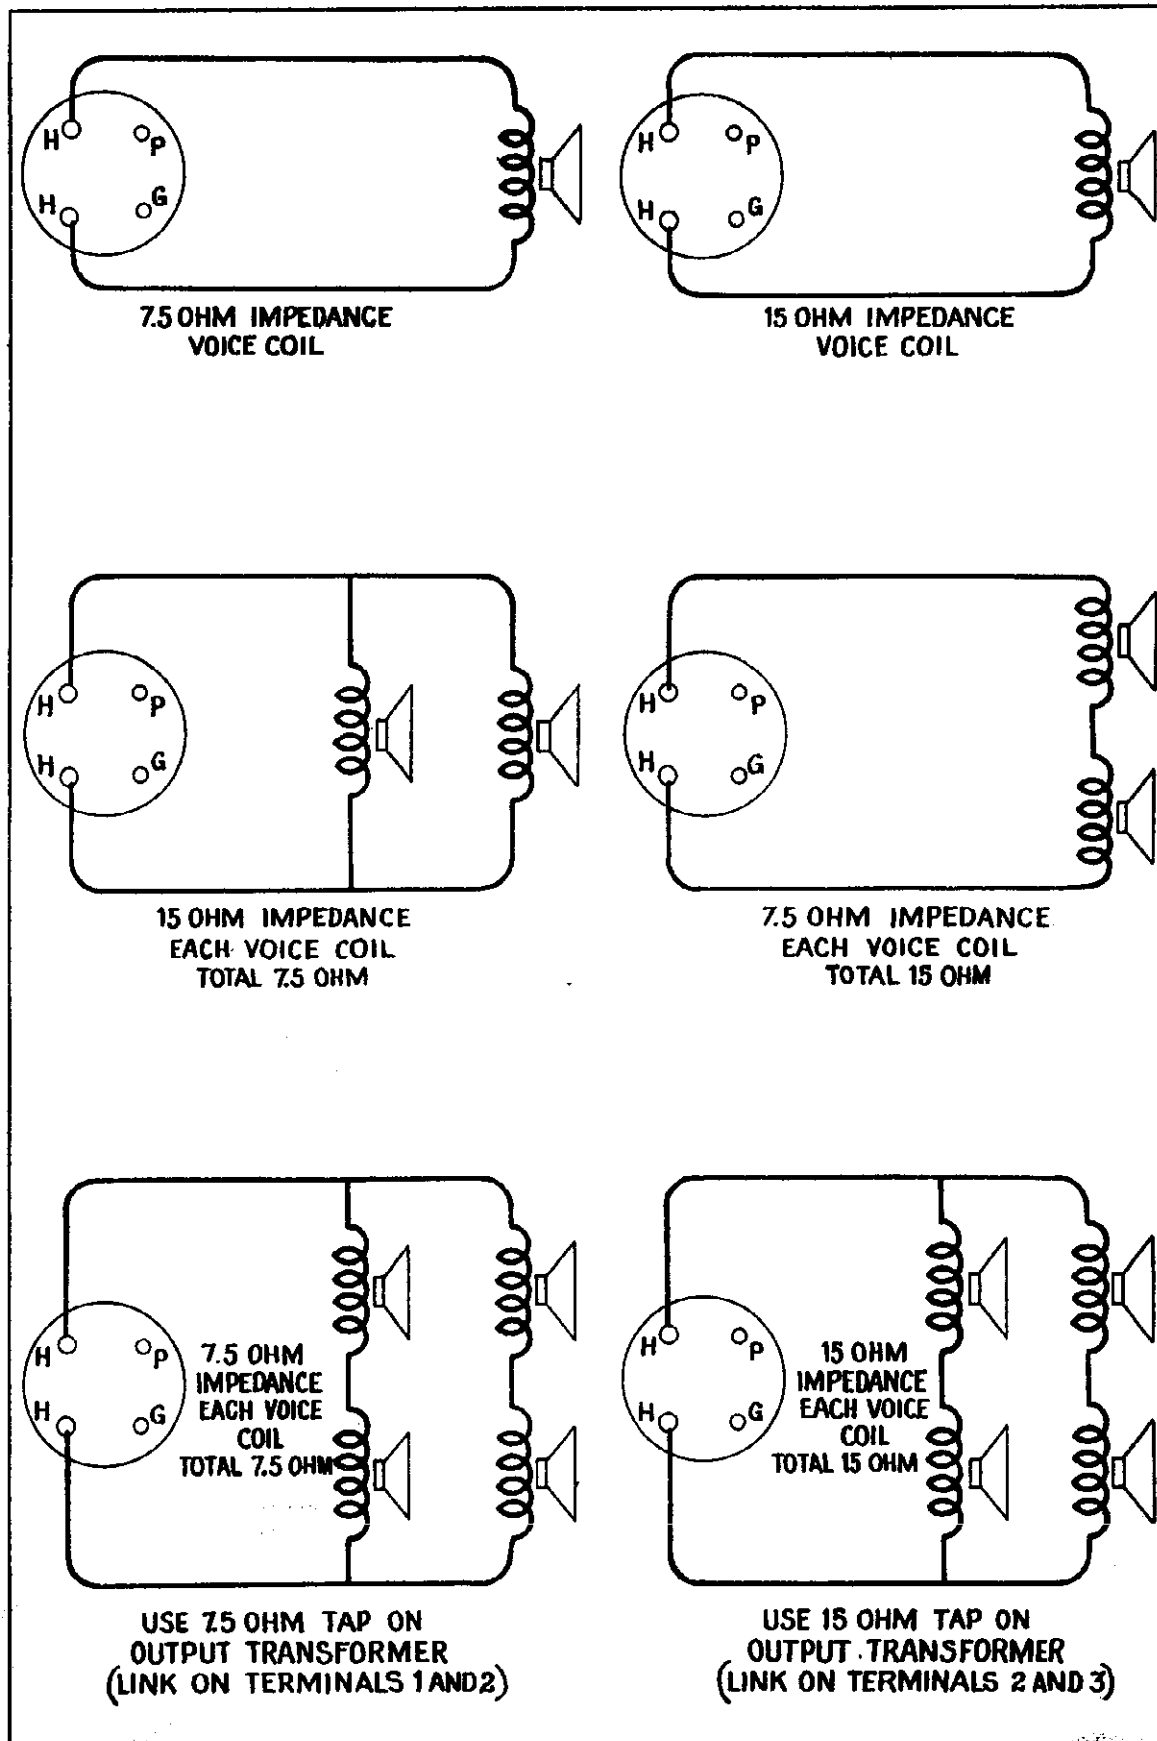
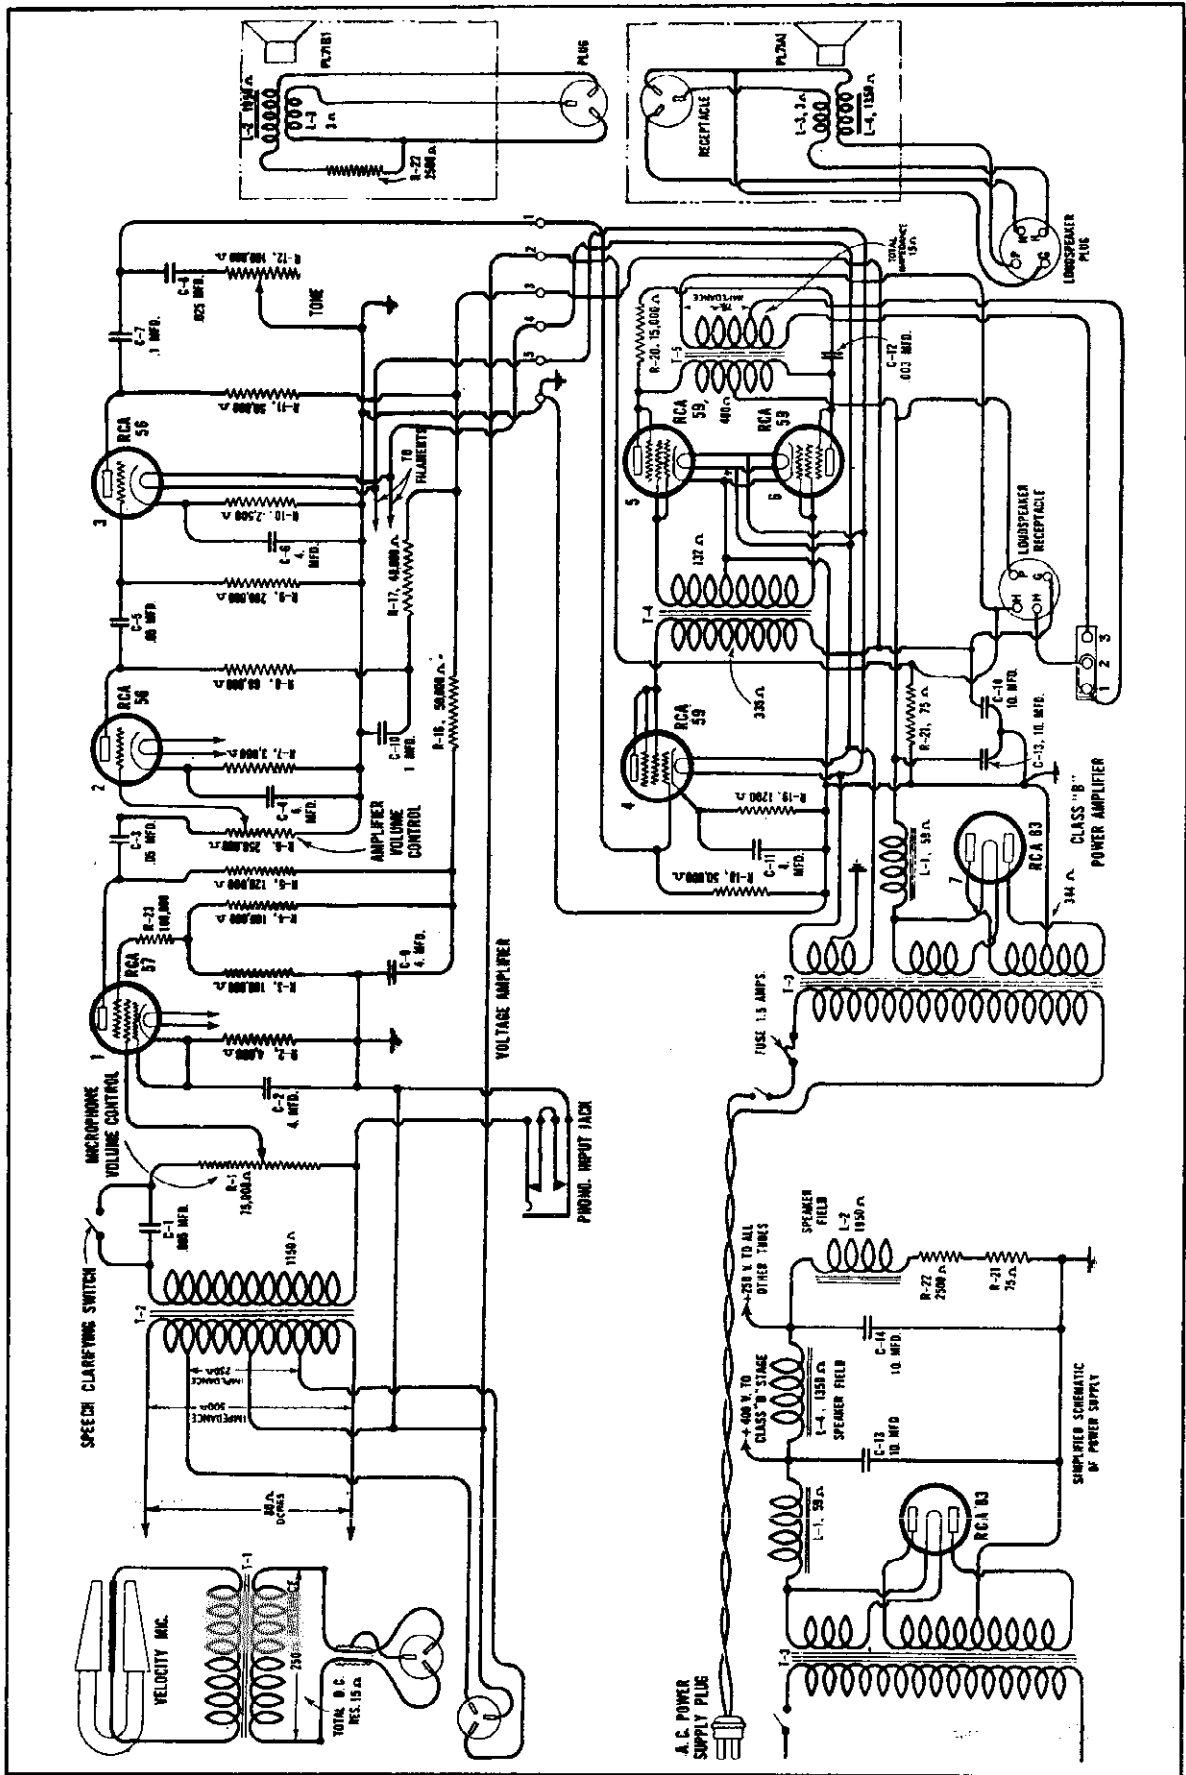
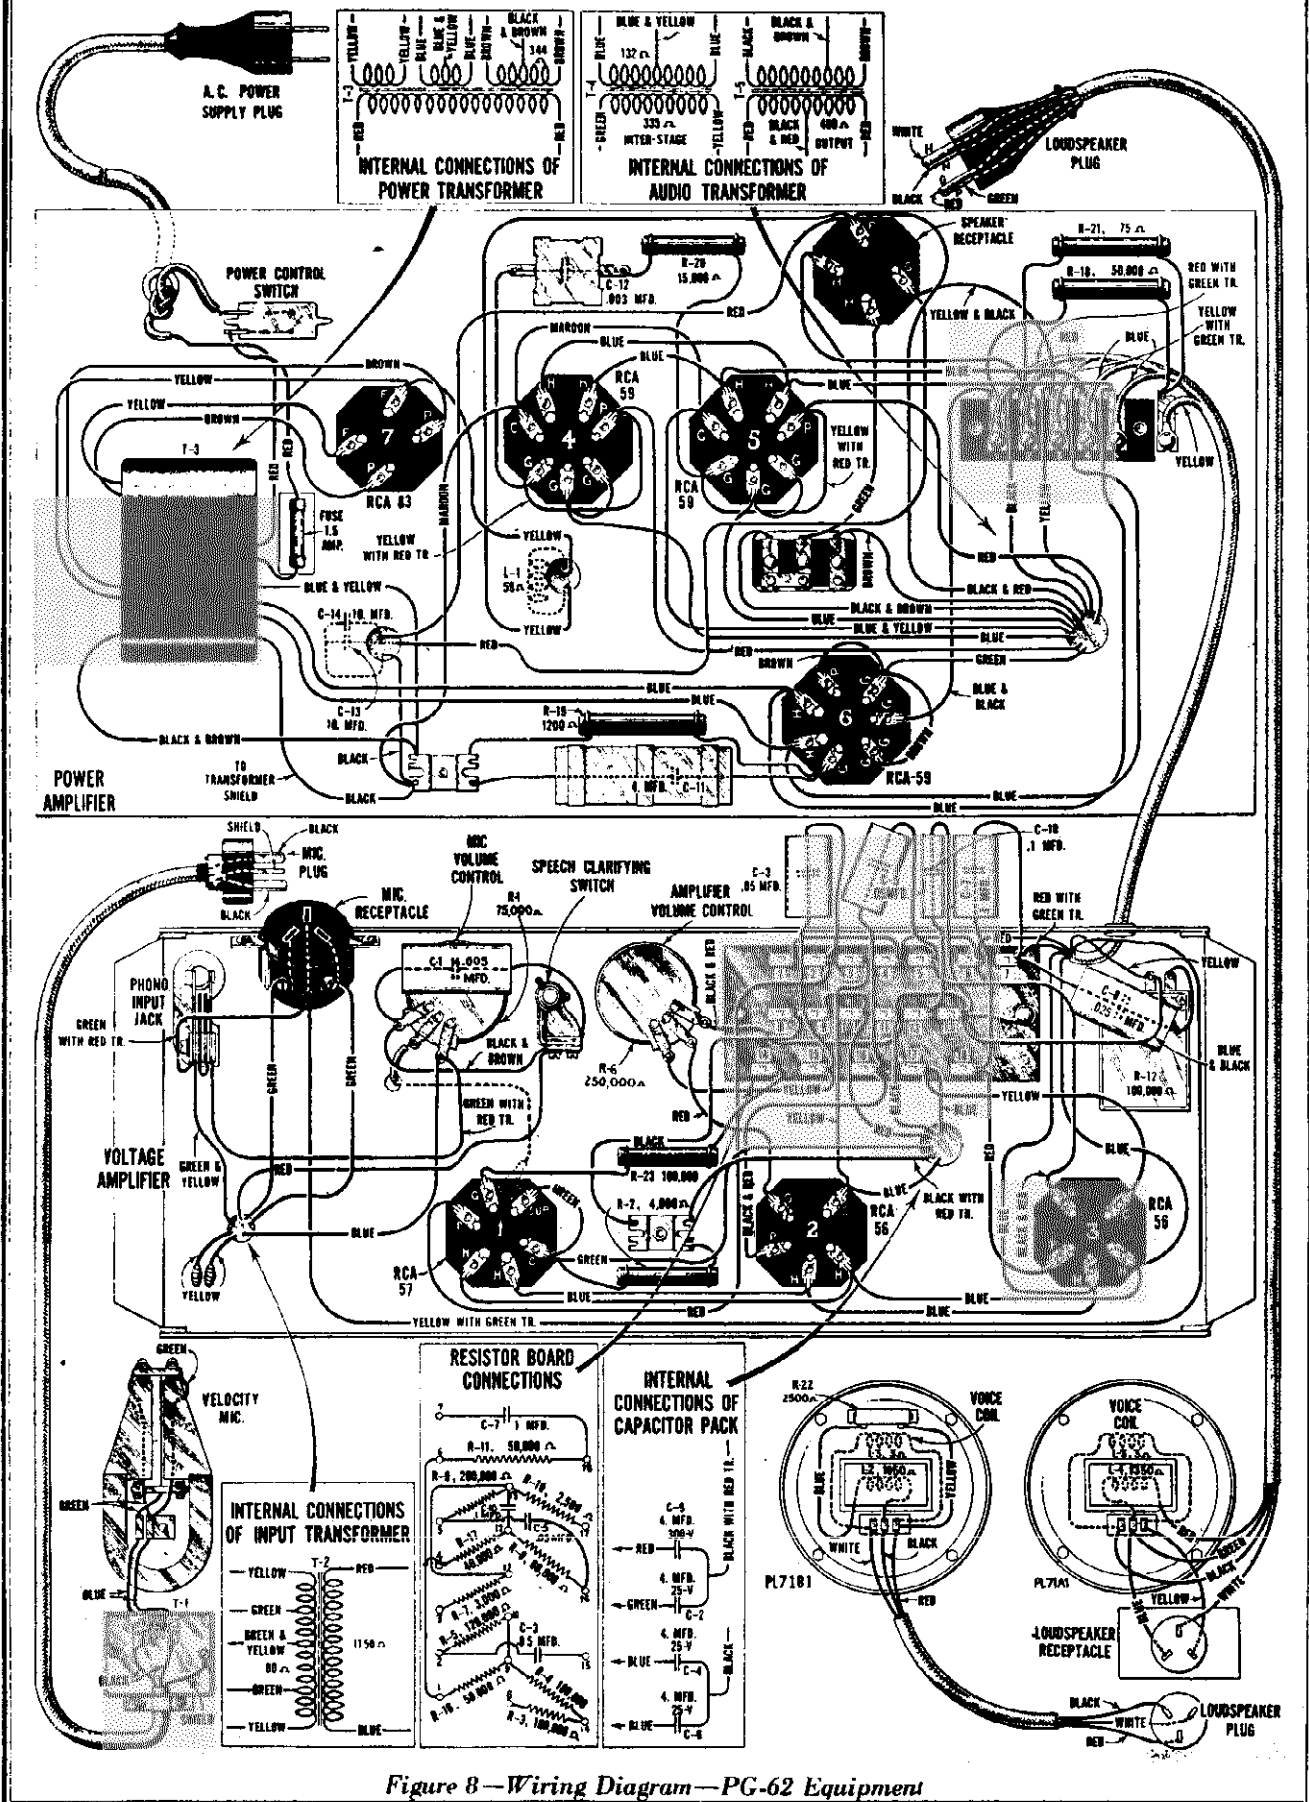

Figure 3—Loudspeaker Wiring
Figure 7—Schematic Circuit Diagram—PG-62 Equipment
Figure 8—Wiring Diagram—PG-62 Equipment
4. Make connections between the loudspeakers and the four pole loudspeaker plug, furnished with the amplifier, as indicated in Figure 3. Insert the loudspeaker plug into the corresponding receptacle on the side of the power amplifier base.
- (c) If the Model PB89A1 power amplifiers are used, connect a set of loudspeakers to each power amplifier as shown in Figure 8. If the Model PB89B1 power amplifiers are used, connect a set of loudspeakers to each power amplifier as shown in Figure 3.
The schematic wiring diagram for the PG-62 Equipment is shown in Figure 7. The wiring diagram for the complete PG-62 Equipment is shown in Figure 8. Figures 9 and 10 show the schematic and wiring diagrams respectively for the Universal Amplifier.